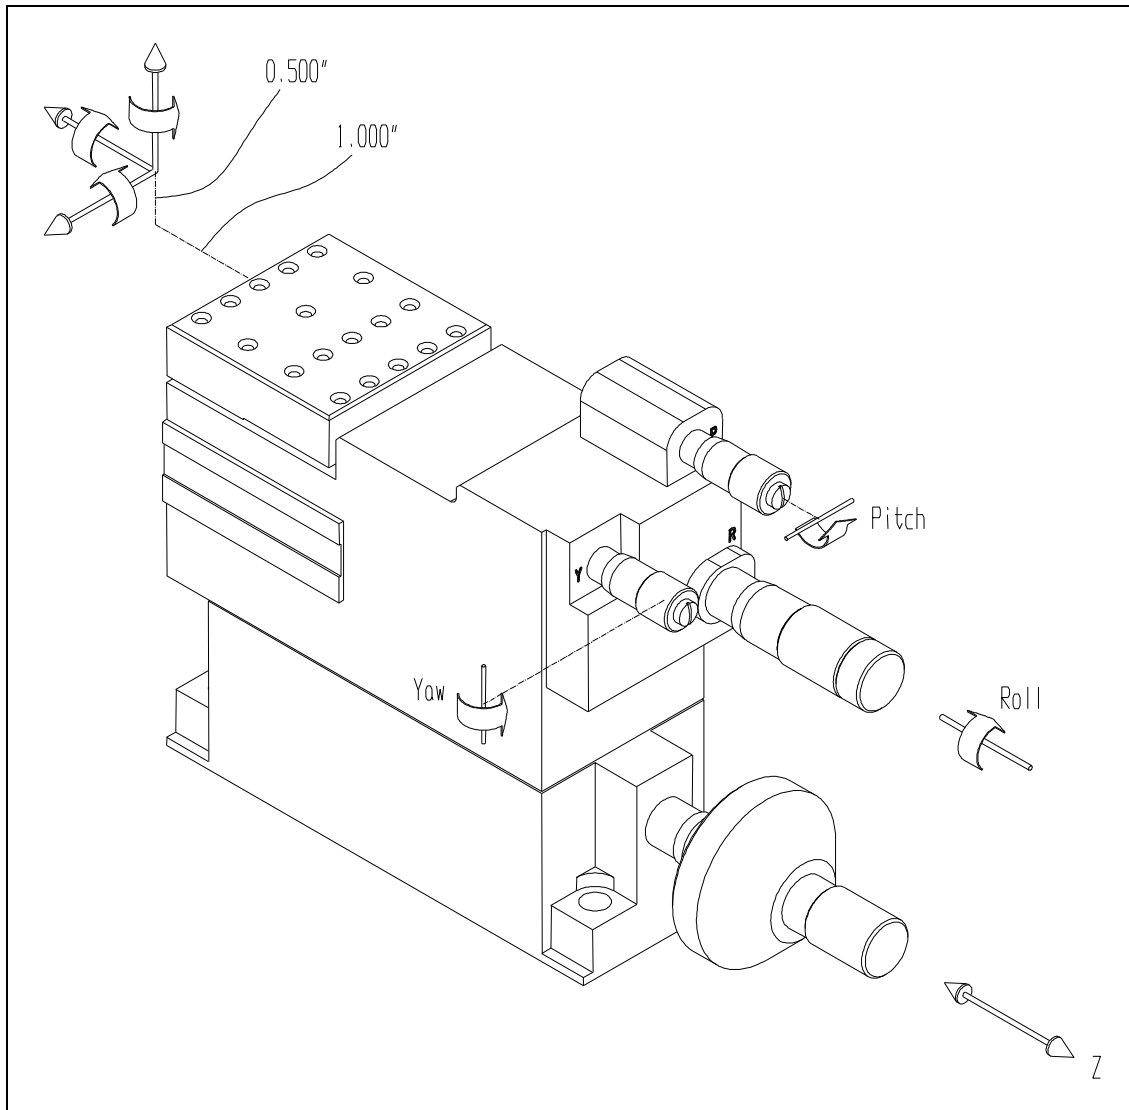

Figure 2 - ZRYP4000 4-Axis Positioner
| Figure 2 - ZRY4000 4-Axis Positioner | 6 |
- Small footprint allows multiple unit workstations (Fig 2).
Each line on the shaft of the micrometer corresponds to one rotation. The “smallest division” refers to the divisions on the knob of the micrometer. Clockwise rotation of each micrometer causes movement in a positive direction as shown in Figure 2 (pg. 6).
The device mounting plate (the square plate at the top of the positioner) is where devices and accessories are mounted. For dimensions, see Figure 5 on page 12. As shown in Figure 2 (pg. 6), the center of rotation for all axes is 1 inch out and ½ inch up from the end of the device mounting plate. To avoid having to adjust the X, Y and Z axes when rotating the device, the device alignment point should be as close as possible to the rotation center.